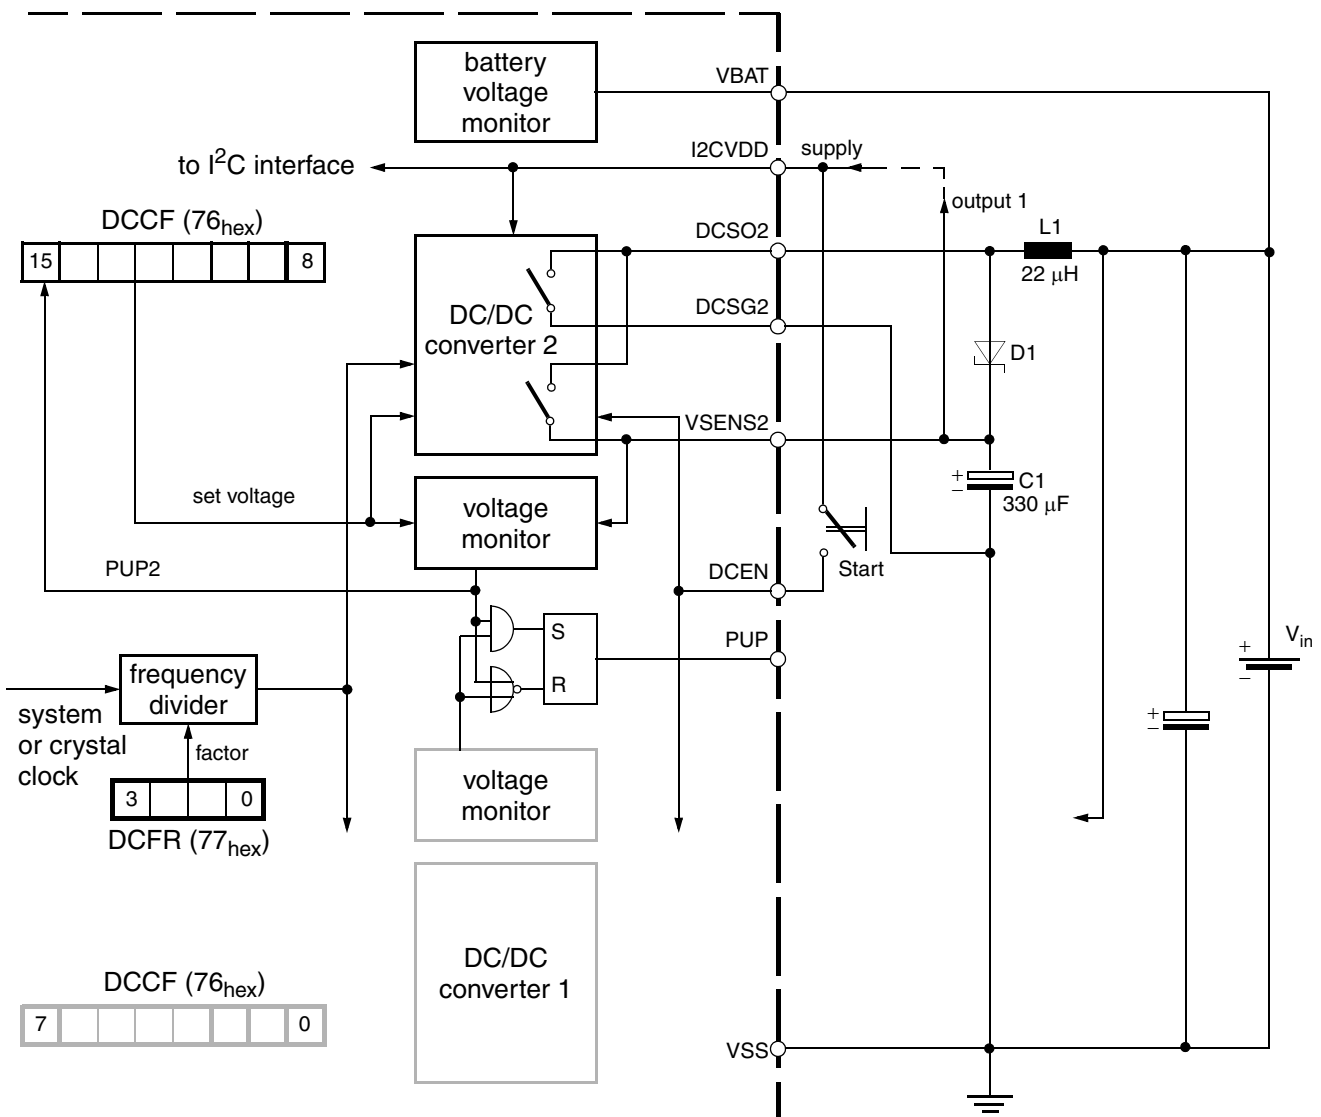

Fig. 2–7: DC/DC converter overview. The DCEN input must be connected to pin I2CVDD via start-up push button.
- Power-optimized solution (recommended operation). DC/DC 1 (e.g. 2.2 V) drives the MAS 35x9F DSP and the audio circuitry, DC/DC 2 (e.g. 2.7 V) supplies controller and flash (see Fig. 2–8 on page 14)
- Volume-optimized solution. DC/DC 1 (e.g. 2.7 V) supplies controller, flash and MAS 35x9F audio parts, DC/DC 2 generates e.g. 2.2 V for the MAS 35x9F DSP (see Fig. 2–9 on page 14).
- Minimized external components. DC/DC 1 operates on, e.g., 2.7 V and feeds all components, DC/DC 2 remains off (see Fig. 2–10 on page 14).
- External power supply. All components are powered by an external source, no DC/DC converter is used (see Fig. 2–11 on page 14).